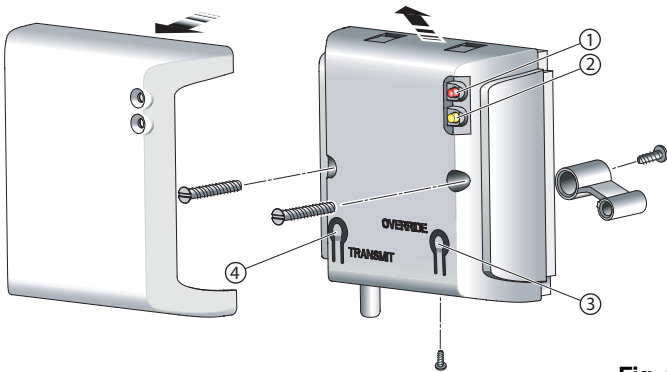

Fig. 4
- Secure the Receiver to the back box using the screws provided (located on rear moulding) - see **Fig. 4**.
### Receiver - see Fig. 4